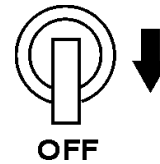

Figure 26. GFCI Circuit Breakers (OFF)
- Place **GFCI** circuit breakers (Figure 26) in the **OFF** position.